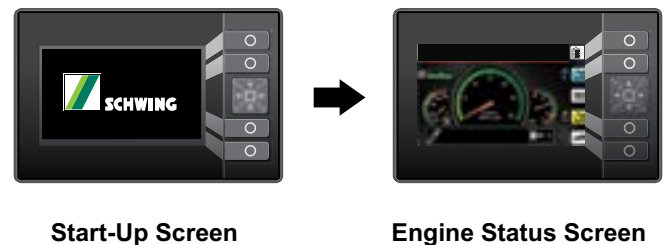

Figure 2
- From the operator control panel, turn the ignition key switch to the RUN position. The SCT2 controller will initialize, and the SCHWING logo will appear on the screen. When the system has finished initializing, the Engine Status Screen will be displayed (Figure 2). Turn and hold the key switch in the START  position; when the engine starts, release. You can't start the engine until the SCT2 controller has initialized.